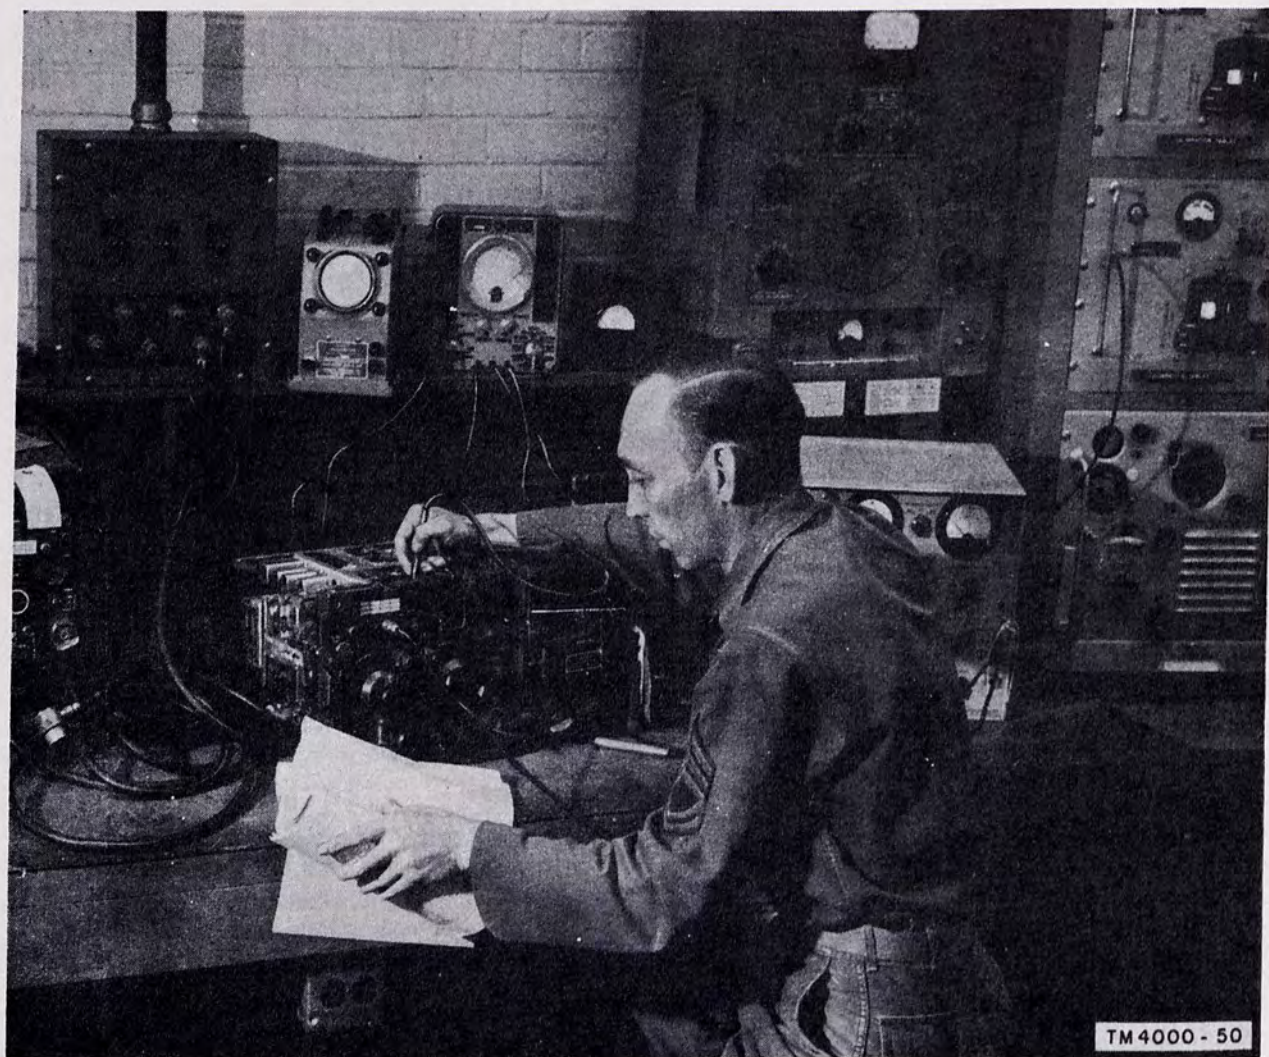

Figure 1. Troubleshooting an Army receiver-transmitter.
a. This manual is a practical reference guide to the troubleshooting and repair of military radio receivers and transmitters. Figure 1 shows the troubleshooting of a receiver-transmitter. The methods and procedures in this manual are *broadly* general, and are based upon successful experience. Theory is used for purposes of clarification only.